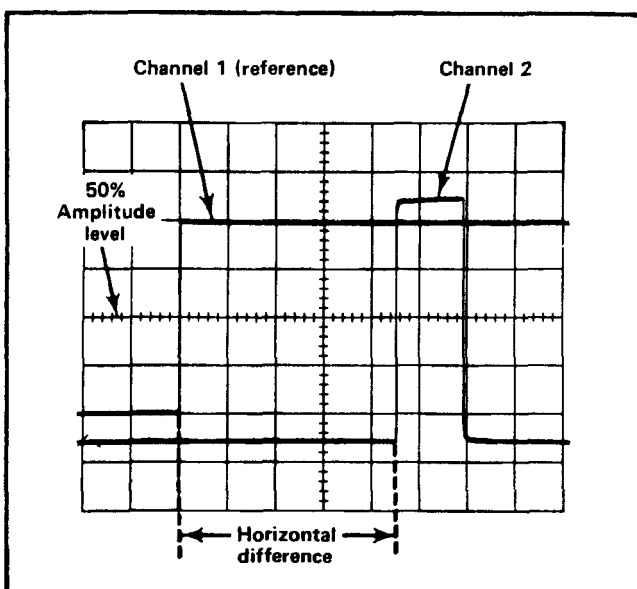

Fig. 2-11. Measuring time difference between two pulses.
11. Measure the horizontal distance between the Channel 1 waveform and the Channel 2 waveform (see Fig. 2-11).
EXAMPLE. Assume that the TIME/DIV switch is set to $50 \mu\text{s}$ and the horizontal distance between waveforms is 4.5 divisions (see Fig. 2-11).